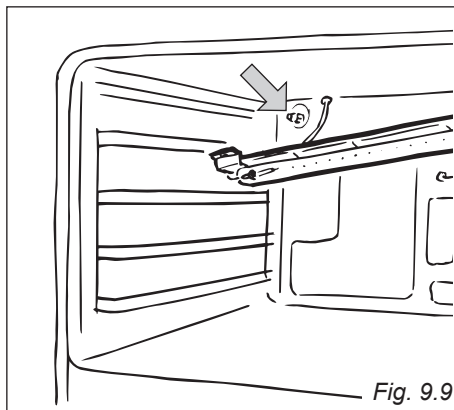

Fig. 9.9
- Move the burner in the manner shown in figure 9.9. Take care not to damage the wire to the ignition electrode and the safety valve probe.
- Using a 10 mm box spanner, unscrew the injector (indicated by the arrow in fig. 9.9) and replace with a new injector selected in accordance with the ‘Table for the choice of the injectors’; then replace the burner repeating the above steps in reverse order.